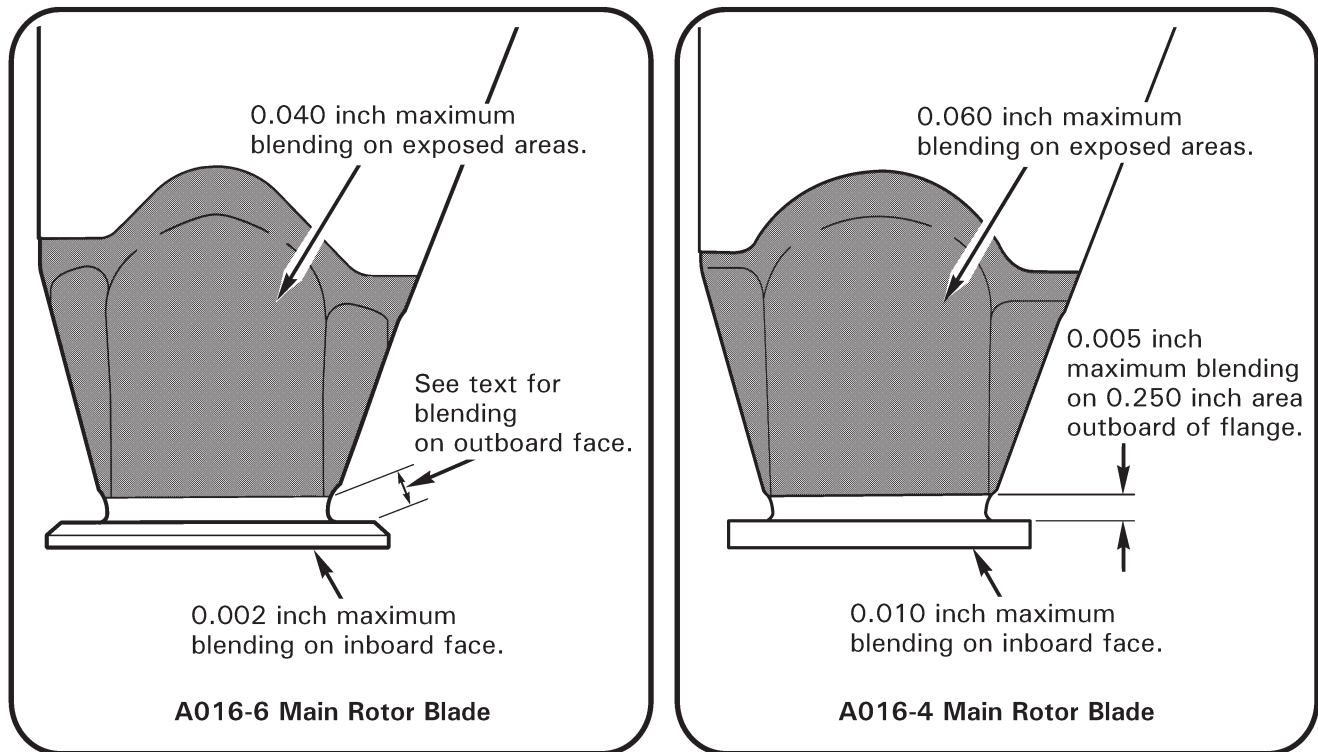

FIGURE 26-13 ROOT FITTING BLEND LIMITS
1. Refer to Figure 26-13. Damage may not exceed the following limits: